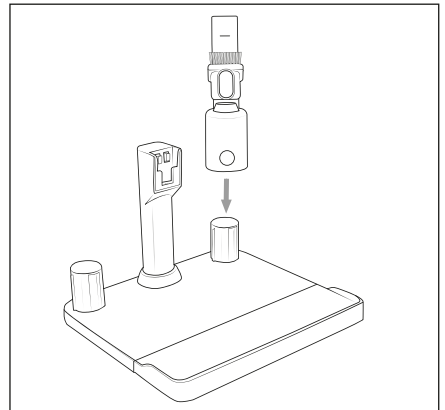

Fig. 13
- ◆ If necessary, remove the 2-in-1 combination brush **13** from the appliance and attach it to the accessories holder **16** for storage (see Figure 13).